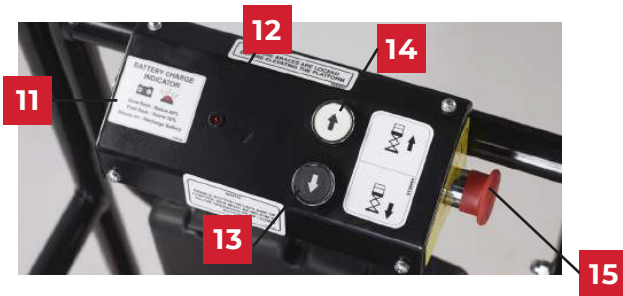

Figure 3 - Upper Controls and Indicators
The upper controls (refer to Figure 3) are located on the control panel at the front of the platform. The following controls are located on the upper control panel: Interlock button, Battery condition indicator, Platform raise/lower buttons, Emergency stop button.
- 10 Test each machine function from the upper control station by engaging the interlock and operating the function controls (refer to Figure 3).